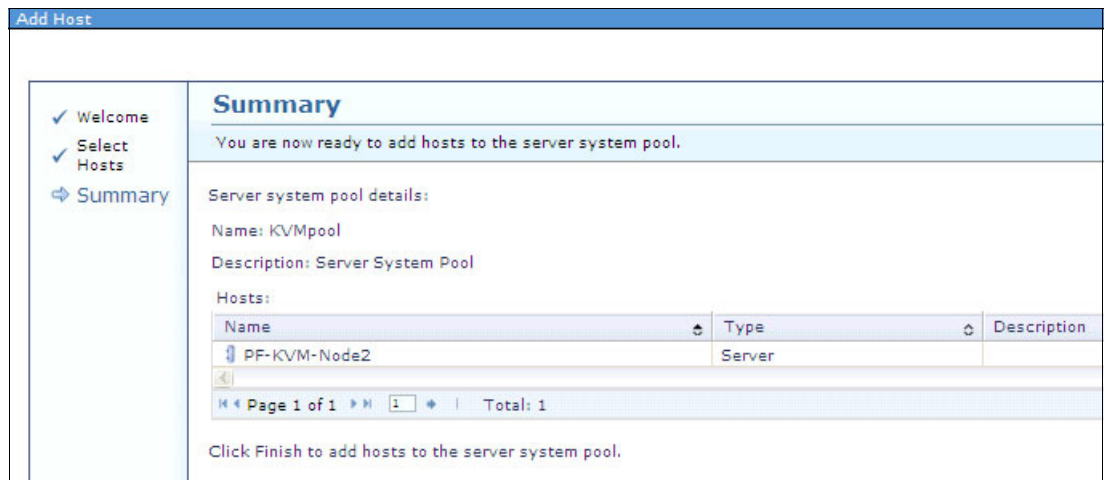

Figure 9-108 Add hosts summary
5. Review the summary and click **Finish** as shown in Figure 9-108.